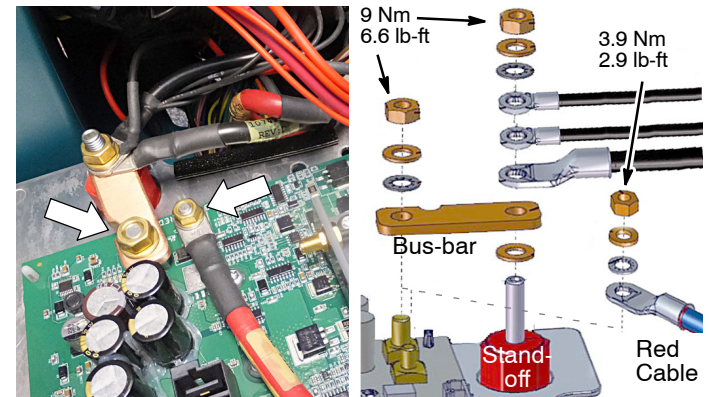

Fig. 10
- Reconnect the bus-bar and red cable to the new circuit board as shown (Figure 10).